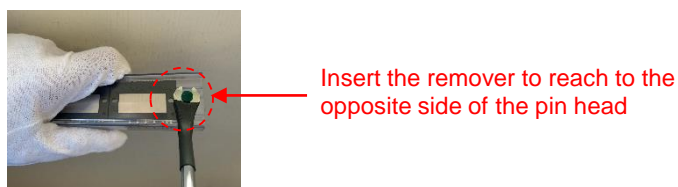

Fig. 2-4 Insert remover
- ③ Insert the removal part of the remover into the gap between the pin and the tube. (See Fig. 2-4)